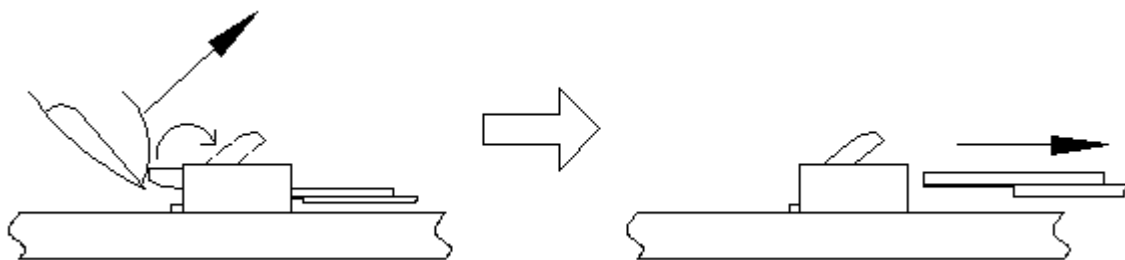

Figure 5.
- 2013- 7 Lift up the actuator(Lock). Carefully withdraw the FPC/FFC. (see figure 5).